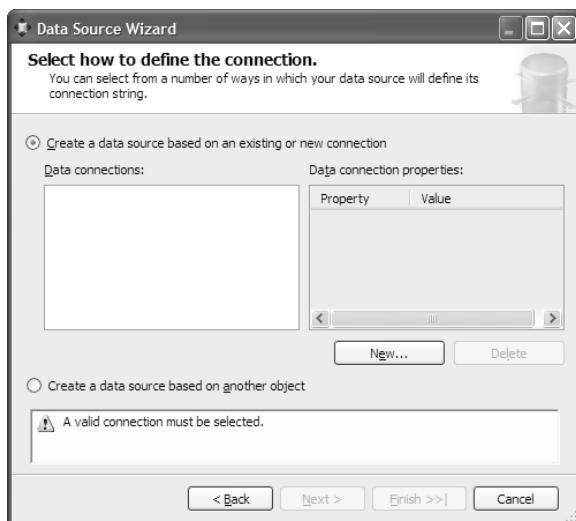

Figure 2.11 Use the Data Source Wizard to set up a connection to the relational data source.
1. Right-click on the Data Sources folder and select *New Data Source*. The Data Source Wizard starts. Click Next to advance to the *Select how to define the connection* step (Figure 2.11).